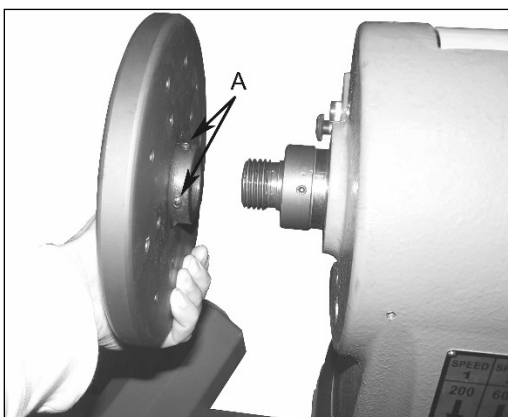

Figure 20
1. The outboard face plate removes in the same fashion as the inboard. Figure 20 shows the face plate already removed from the spindle. Before removing, loosen the two set screws 'A' then lock the spindle using the indexing pin as described in the inboard face plate removal instructions. The face plate diameter should be large enough to give sufficient torque to unscrew by hand. This is done in a counterclockwise rotation. If the faceplate does not budge, insert two metal dowels into two of the mounting holes on the face of the plate. Then use a leverage bar between the two dowels to loosen the face plate.